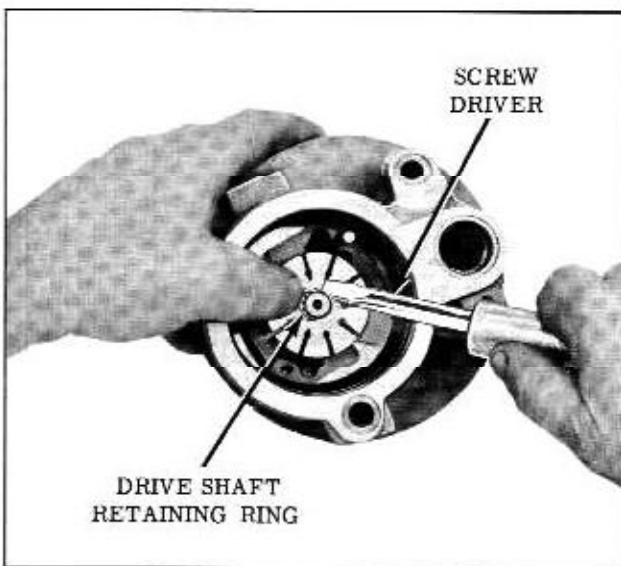

Fig. 4-54 Removing Snap Ring
10. Remount housing in vice and, using a suitable tool, remove snap ring on end of drive shaft. (Fig. 4-54)